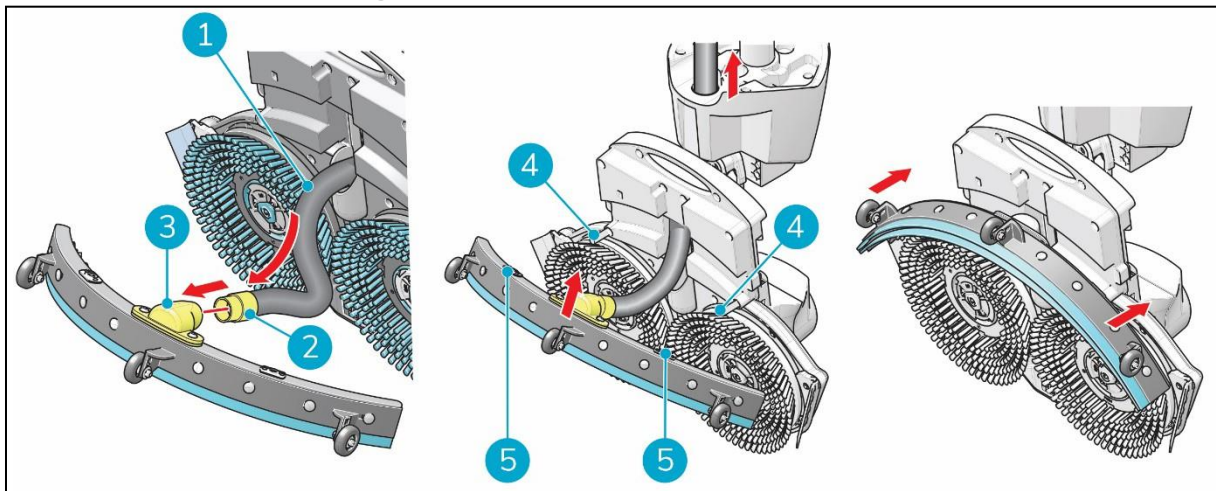

Figure 10
1. Take the vacuum hose (Figure 10, pos 1).
2. Insert the hose connector (Figure 10, pos 2) in the squeegee (Figure 10, pos 3).
3. Twist the hose connector 1/4 turn for a firm fit (Figure 10, pos 2).
1. Align the pins on the scrub deck (Figure 10, pos 4) with the holes on the squeegee (Figure 10, pos 5).